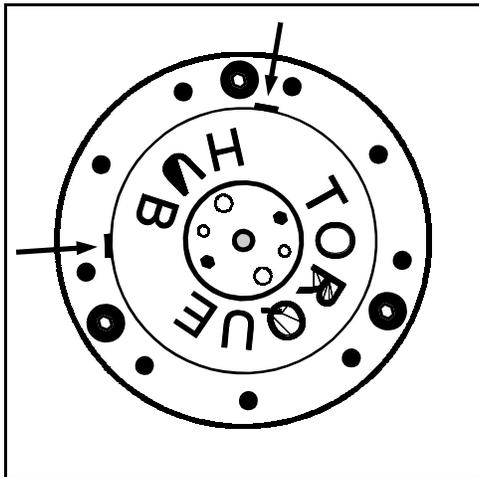

FIG 7.3
**OIL LEVEL** - Each Torque Hub® should maintain an oil level of half full at all times. Less than that would limit lubrication, and over half full could cause overheating and damage. To check oil level, position Torque Hub® so one of the drain plugs is positioned at 12 O'clock (fig. 7.3). The other plug will be either at 9 O'clock or 3 O'clock. Remove the lower plug: if no oil comes out, oil level is too low. Check Torque Hub® oil level every 100 hours.